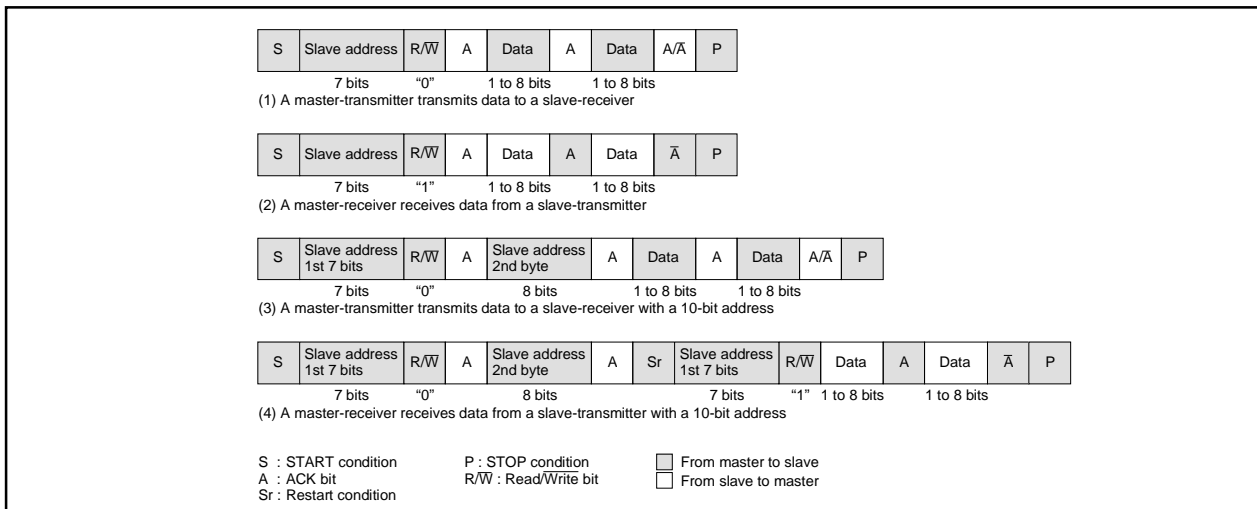

Fig. 2.11.45 Address data communication format
To meet the 7-bit addressing format, set the 10BIT SAD bit of the I²Ci control register to "0." The first 7-bit address data transmitted from the master is compared with the high-order 7-bit slave address stored in the I²Ci address register. At the time of this comparison, address comparison of the RBW bit of the I²Ci address register is not made. For the data transmission format when the 7-bit addressing format is selected, refer to Figure 2.11.45, (1) and (2).
When the first-byte address data matches the slave address, the AAS bit of the I²Ci status register is set to "1." After the second-byte address data is stored into the I²Ci data shift register, make an address comparison between the second-byte data and the slave address by software. When the address data of the 2nd bytes matches the slave address, set the RBW bit of the I²Ci address register to "1" by software. This processing can match the 7-bit slave address and R/\bar{W} data, which are received after a RESTART condition is detected, with the value of the I²Ci address register. For the data transmission format when the 10-bit addressing format is selected, refer to Figure 2.11.45, (3) and (4).
(11) Example of Master Transmission